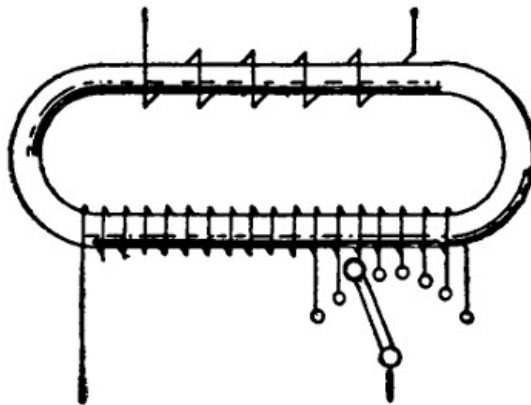

FIGURE 136.
*Transformation Control.*—Another method of lowering the voltage is by means of the transformer. A diagram of an ordinary transformer winding is given in Figure 136. The fine-wire winding is the primary winding or coil, if the transformer is used to lower the voltage; and the other is known as the secondary winding or coil. The energy in both coils of the transformer, neglecting the iron and copper losses, is always exactly equal. The ratio of voltage between the primary and secondary terminals is in direct proportion to the number of turns of wire in each. If there are half as many turns in the secondary winding as in the primary, the voltage will be just one-half, but the current will be double. The transformer is self-regulating, within the limits of its capacity, and whatever energy is taken from the secondary, the primary will automatically supply.
A transformer must be specially built for the voltage and frequency, at which it is to be used; but many of them are provided with taps, such as shown in Figure 136, by which small adjustments of voltage or current can be made. A transformer must always be connected so that the switch, when open, will disconnect the primary wires. If these remain closed there will be a small current through the primary winding which will mean a considerable waste of energy.